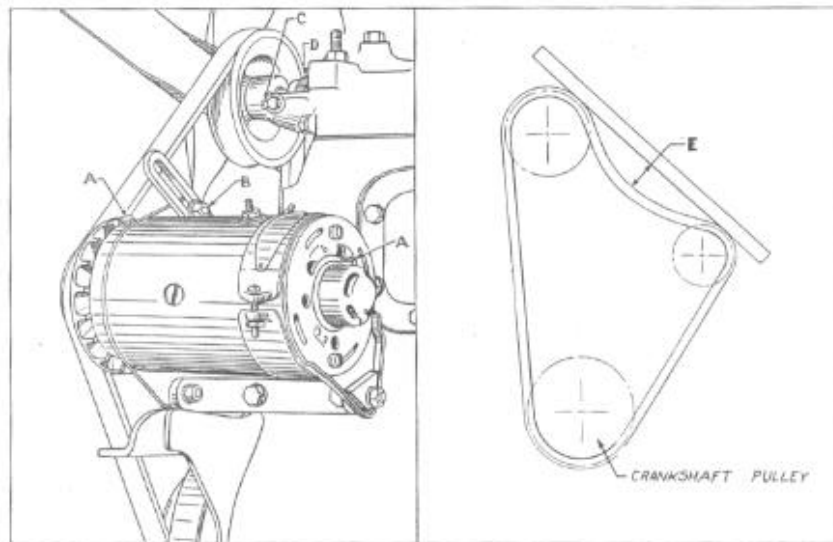

Figure 6
A few drops of light oil should be supplied to cups (A), Figure 6, every 1,000 miles. Do not over-lubricate.
The generator is driven by the "V" type belt, which also drives the fan and water pump. This belt must be kept sufficiently tight to prevent slippage on the pulleys. When properly adjusted the belt will have from 1-1/4" to 1-3/4" of slack at a point midway between the fan pulley and generator pulley, as shown at (E), Figure 6. This adjustment provides sufficient tightness to prevent slippage without causing undue wear of the fan and generator hearings.
The water pump is of the 6-vane type and is mounted in the forward end of the cylinder head. The roller bearing at the forward end of the pump shaft should be lubricated at 1,000-mile intervals through the pressure fitting shown at (C), Figure 6, using a high-grade water pump grease.